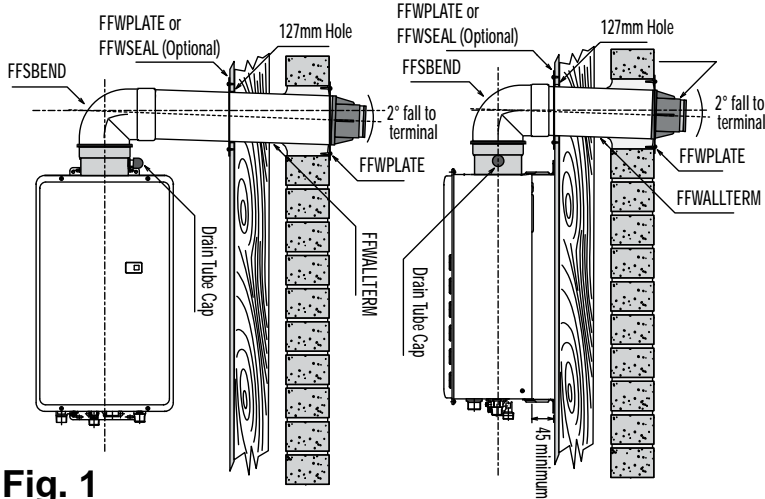

Fig. 1
4. The required clearances of Rinnai internal continuous flow water heater when installed as a single unit are shown in Fig.1. The appliances are certified to be installed side by side as shown on page 3, allowing a minimum distance between flues as follows:
DIRECT HORIZONTAL (FIG. 1)